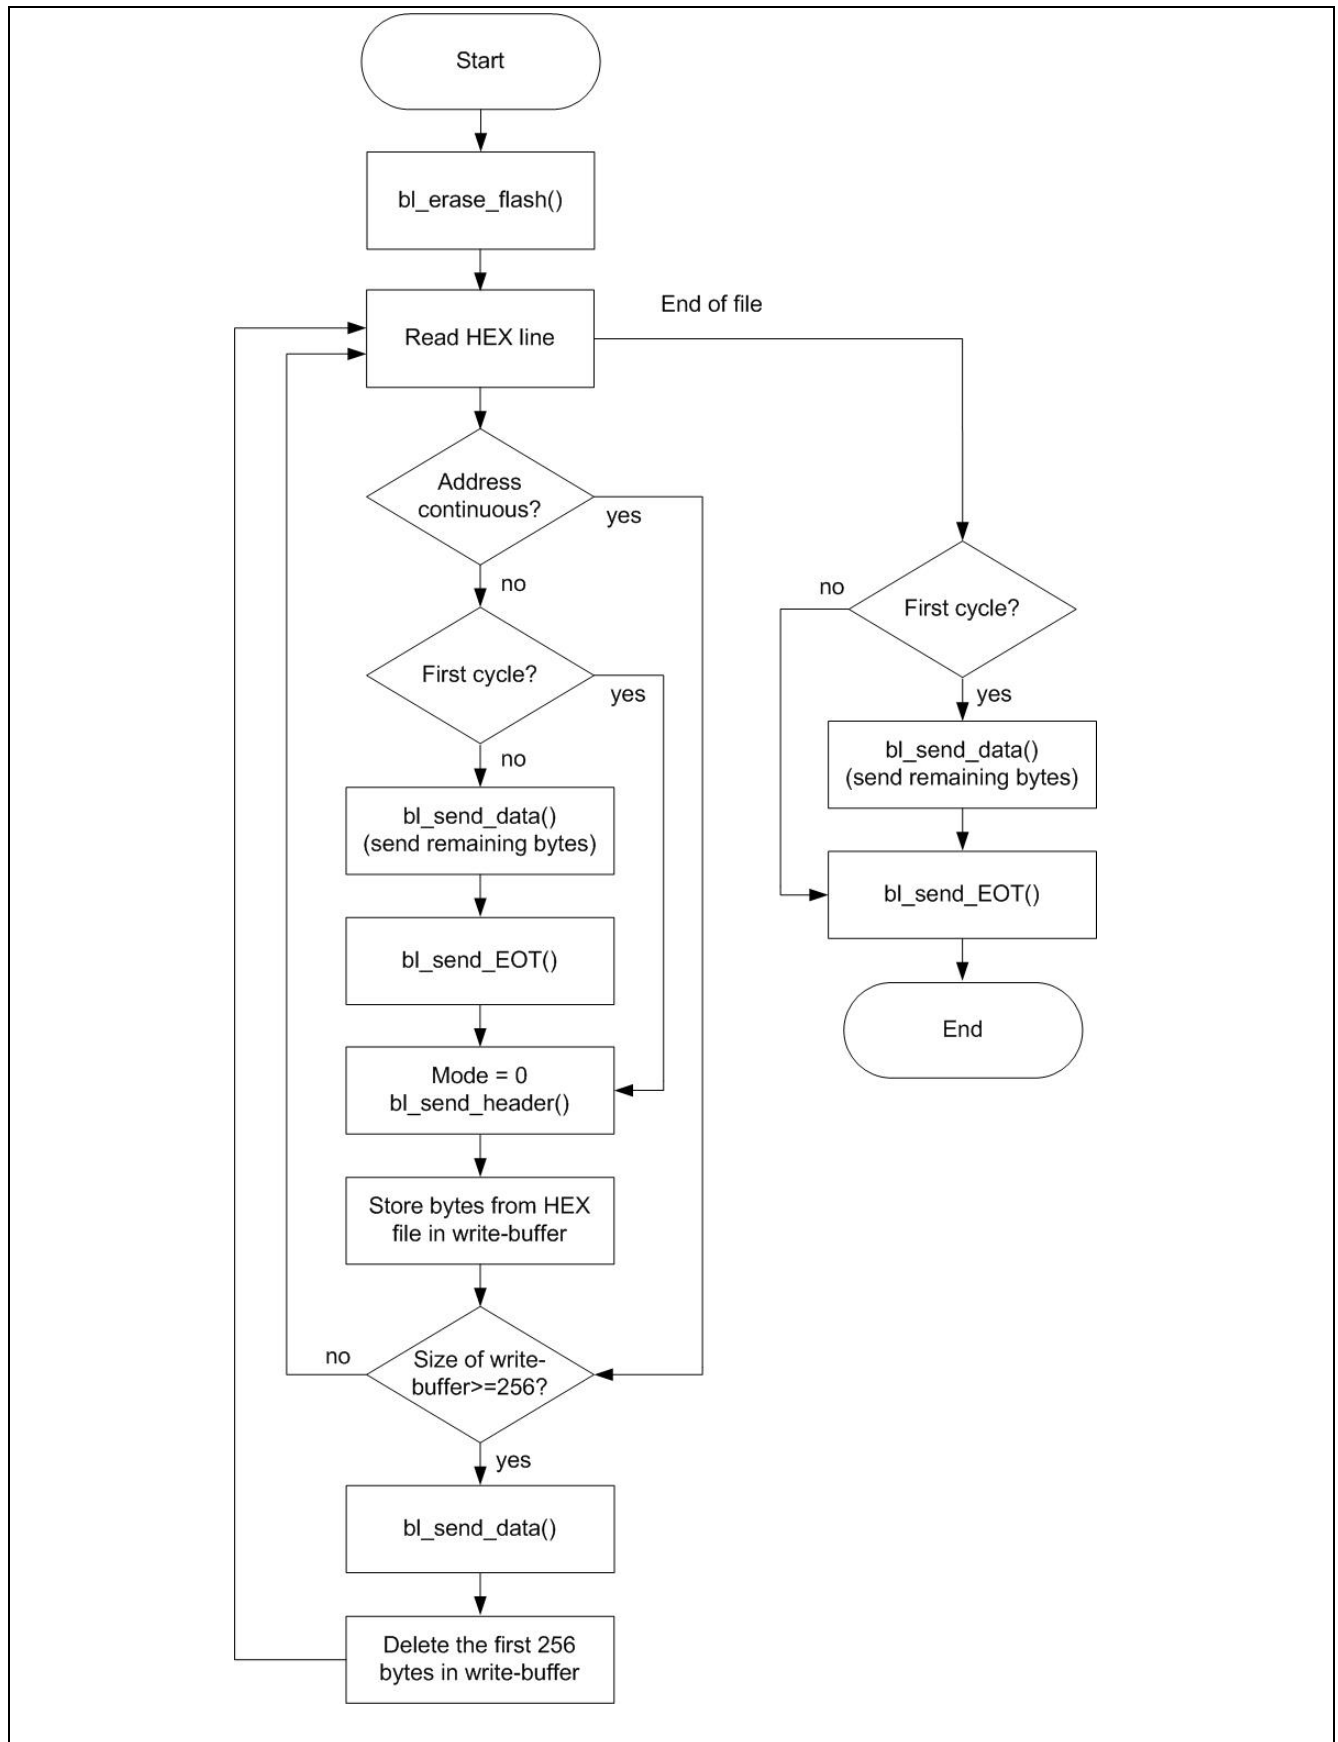

Figure 8 Flash programming procedure implemented in bl\_download\_flash()
- The Flash programming procedure is implemented in bl\_download\_flash() shown in Figure 8.